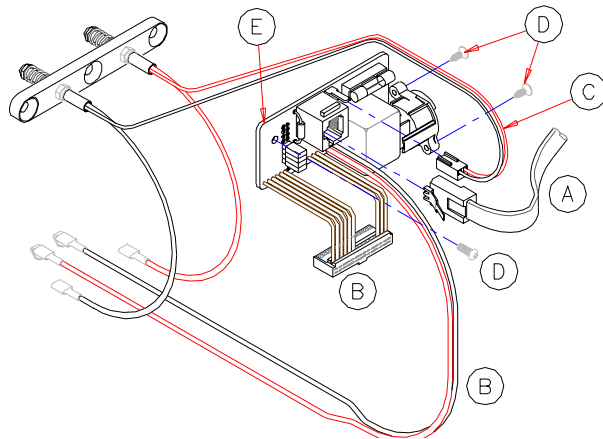

Figure 24
3. Disconnect Control Cable (24-A), wiring to Controller (Fig. 24-B) and Contact Pins Assembly (24-C)